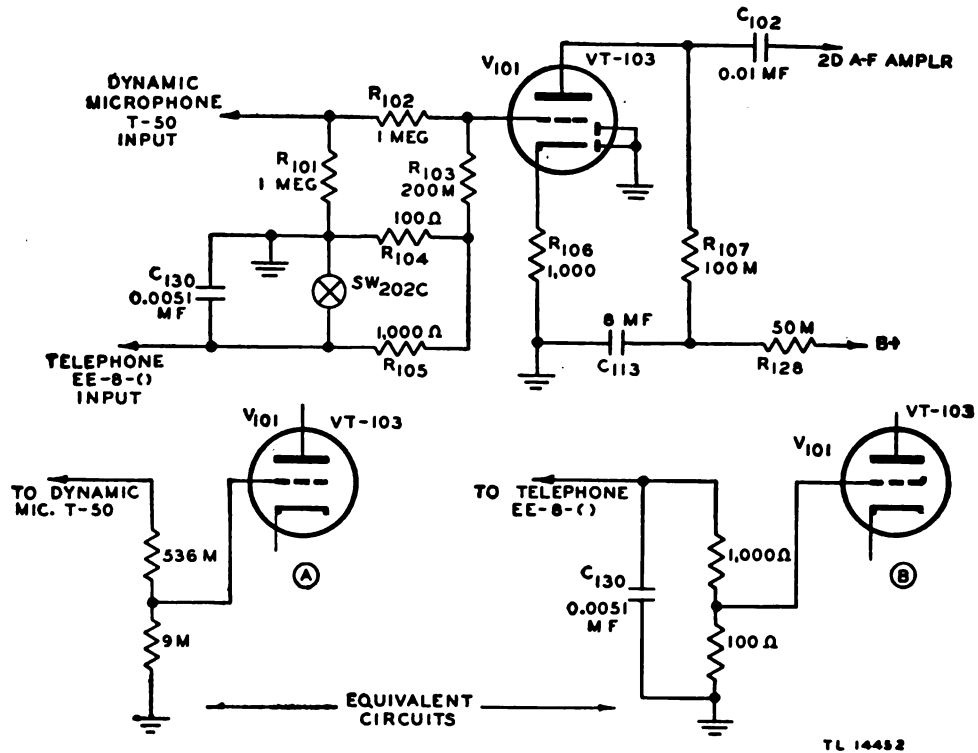

Figure 78. First a-f amplifier stage—functional diagram.
144. First A-F Amplifier (fig. 78)
Tube V_{101} (Tube JAN-6SQ7 (VT-103)) is connected as a triode in a Class A resistance-coupled amplifier stage. Its purpose is to amplify the output of dynamic Microphone T-50 or remote Telephone EE-8-. The tube is self-biased as a result of the d-c voltage drop across the cathode-bias resistor R_{106} . Plate voltage is furnished by the power supply in the speech amplifier, and is applied to the plate of tube V_{101} through a decoupling resistor R_{128} and plate-load resistor R_{107} . Capacitor C_{113} is the a-f bypass capacitor for decoupling resistor R_{128} . The filter, consisting of resistor R_{128} and capacitor C_{113} , prevents feedback from succeeding stages because of coupling through the common impedance of the power supply. The network in the grid circuit, consisting of resistors R_{101} , R_{102} , R_{103} , R_{104} , and R_{105} , is designed to properly match the impedance of either dynamic Microphone T-50 or a telephone line, the far end of which is connected to a field Telephone EE-8-. Microphone T-50 requires high-impedance input; Telephone EE-8- requires a low-impedance input. In addition to matching impedance, the network also provides the correct attenuation of the input a-f voltage when using Microphone T-50 or field Telephone EE-8-. This is a necessary function because the output voltage levels of Microphone T-50 and Telephone EE-8- differ considerably. Solution of the resistance network, consisting of resistors R_{101} , R_{102} , R_{103} , R_{104} , and R_{105} , yields the equivalent circuits shown in figure 78(A) and (B). Figure 78(A) is an equivalent circuit of the 1st a-f amplifier stage when using Microphone T-50; figure 78(B) is an equivalent circuit when using remote Telephone EE-8-. In either case, the a-f voltage applied to the grid of tube V_{101} is, in effect, obtained from a tap on a voltage divider. When using Microphone T-50, the microphone output voltage is attenuated